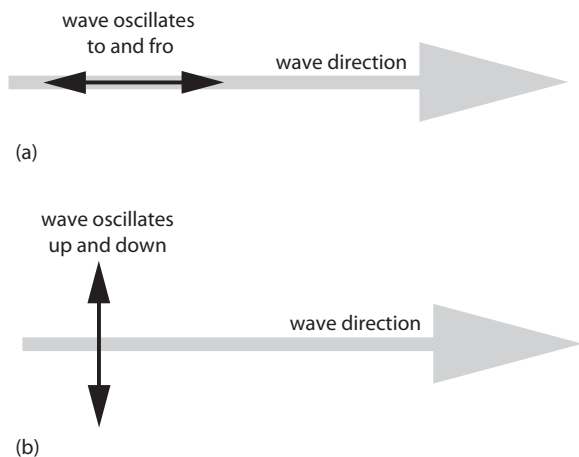

Figure 5.1. Direction of oscillation relative to direction of travel for longitudinal (a) and transverse (b) waves.
- **Transverse waves** oscillate in a direction perpendicular to the direction of propagation. A Mexican wave in a sports arena is an example of a transverse wave: the spectators stand up and sit down, perpendicular to the direction of the wave. Another example is a mechanical wave travelling along a taut string. All electromagnetic waves are also transverse waves. *Figure 5.1* shows the directions of oscillation of longitudinal and transverse waves relative to their propagation direction.